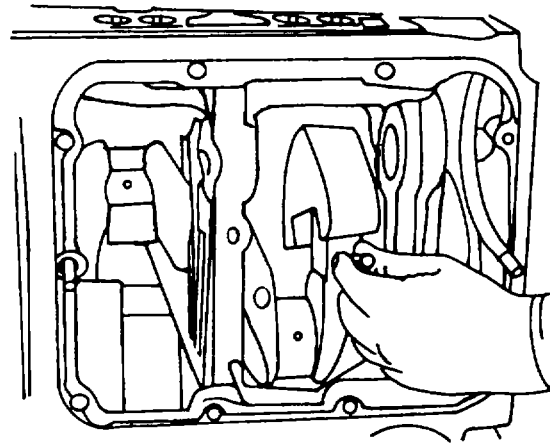
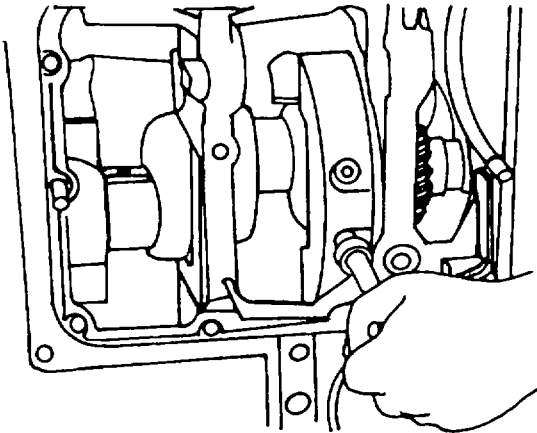
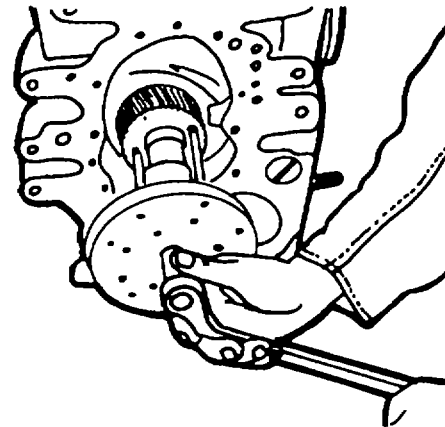

Figure 5-9. Index Marking Balance Weights
Figure 5-10. Removing Balance Weights
Figure 5-11. Removing Crankshaft Gear Wheel
- d. Remove the camshaft and tappets (figure 5-9). Mark and disassemble the crankshaft balance weights (figure 5-10). Remove the crankshaft gear wheel with puller No. 003-0672 (figure 5-11).